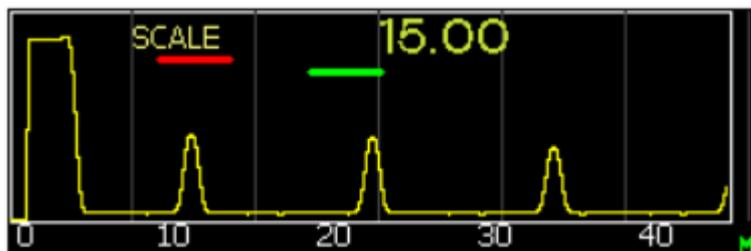

Figure 3.2 – A-scan scaling
3.2.5.1 To start the setup, press the  button. The “scale” message will appear on the screen. (Figure 3.2).